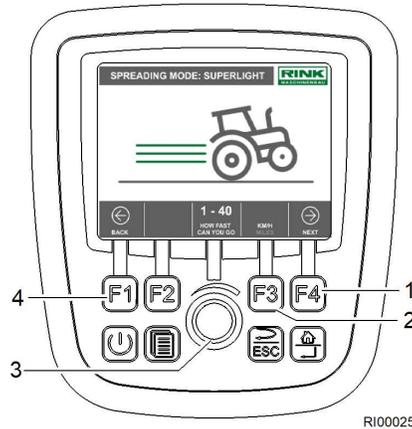

Fig. 42 Set driving speed
1. Turn the rotary control (Fig. 42/3) and set the desired driving speed for spreading operation.
3. If you want to switch between km/h and miles/h units, press the F3 button (Fig. 42/2). The unit is changed.
4. Press the F4 button (fig. 42/1). The next menu is called up.
Press the F1 button (Fig. 42/4). The previous control menu is called up.